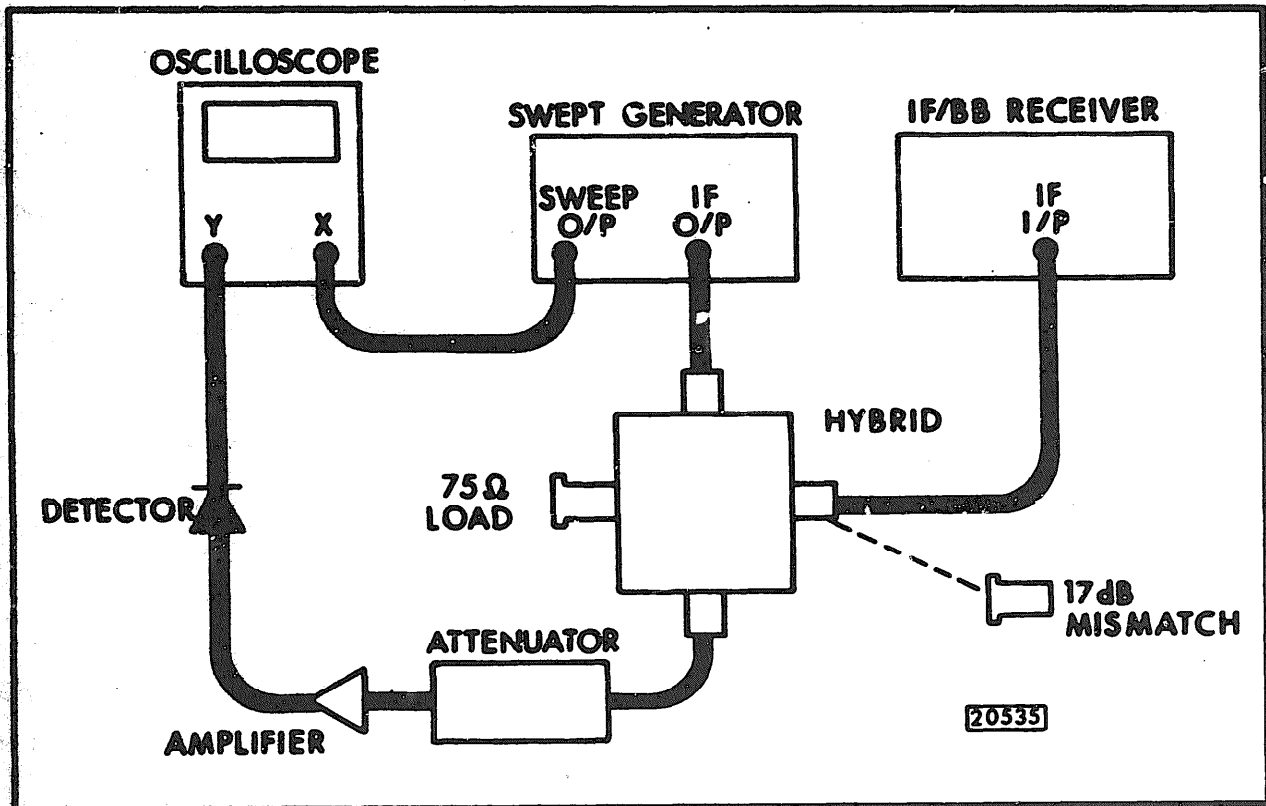

Figure 4-11. IF Input Return Loss Check
4. Connect the equipment as in Figure 4-11 with the Hybrid connected to the 17dB Mismatch. Adjust the Oscilloscope controls to obtain a display on the CRT. Adjust the EXT SENS control to give a 10cm horizontal deflection. The display on the Oscilloscope CRT is that of Return Loss v Frequency.